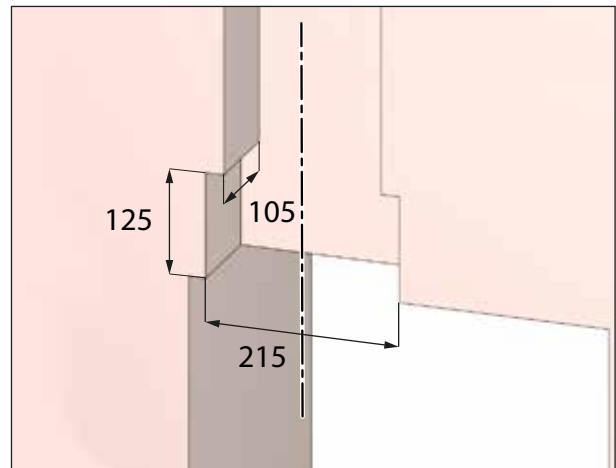

Fig. 15: Chasing out channels for ductwork connection adapter M-WRG-II AD-UP, dimensions in millimetres
- ▶ Widen the channels created at the wall breakthrough for the flat ductwork or flexible pipes to create sufficient space for the ductwork connection adapter M-WRG-II AD-UP (see dimensions in Fig. 15).